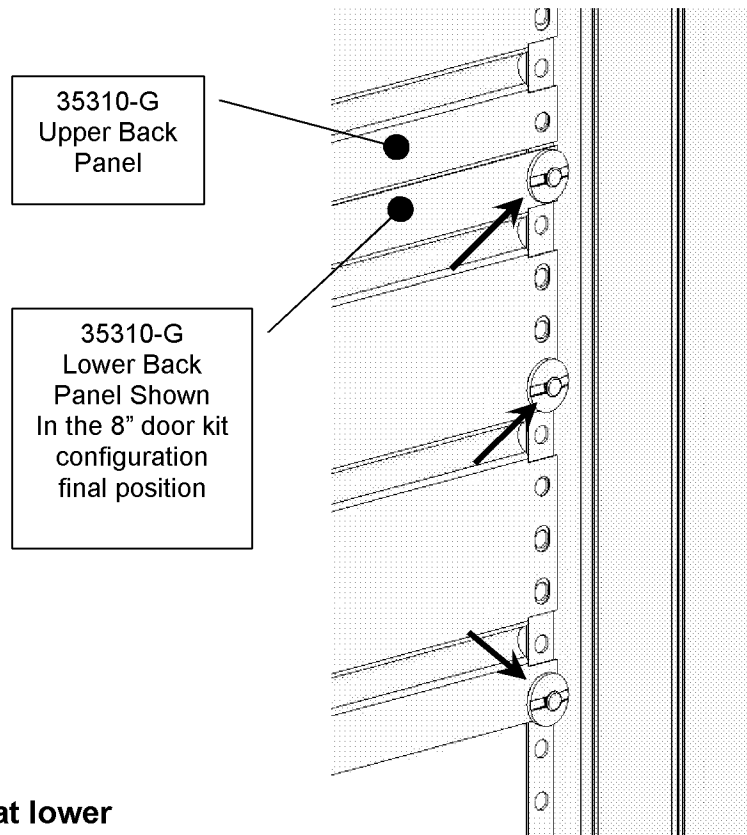

Figure 10
Install (6) removable, push-rivets (FAS0710) and EPDM (FAS0688) washers into the holes on each end of the back panel (35310-G) as shown in Fig.10. Do not push in the center post of the push-rivet at this time. Align the top push-rivets with the (1st) hole down from the upper back panel push-rivet as shown in Figure 10. Depress the locking column to secure the back panel to the end panel. Install the remaining (5) push-rivets. Back panel should be orientated with the cylindrical embossments (ribs) as shown.